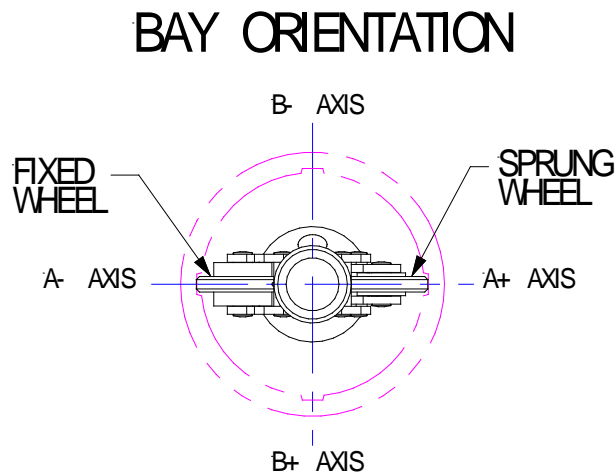

Figure 1: MEMS IPI Orientation
3. Align the A-Axis wheels with the anticipated failure direction and insert the wheels in the inclinometer casing grooves. The A+ (sprung wheel) should be oriented towards the anticipated movement (see Figure 1).